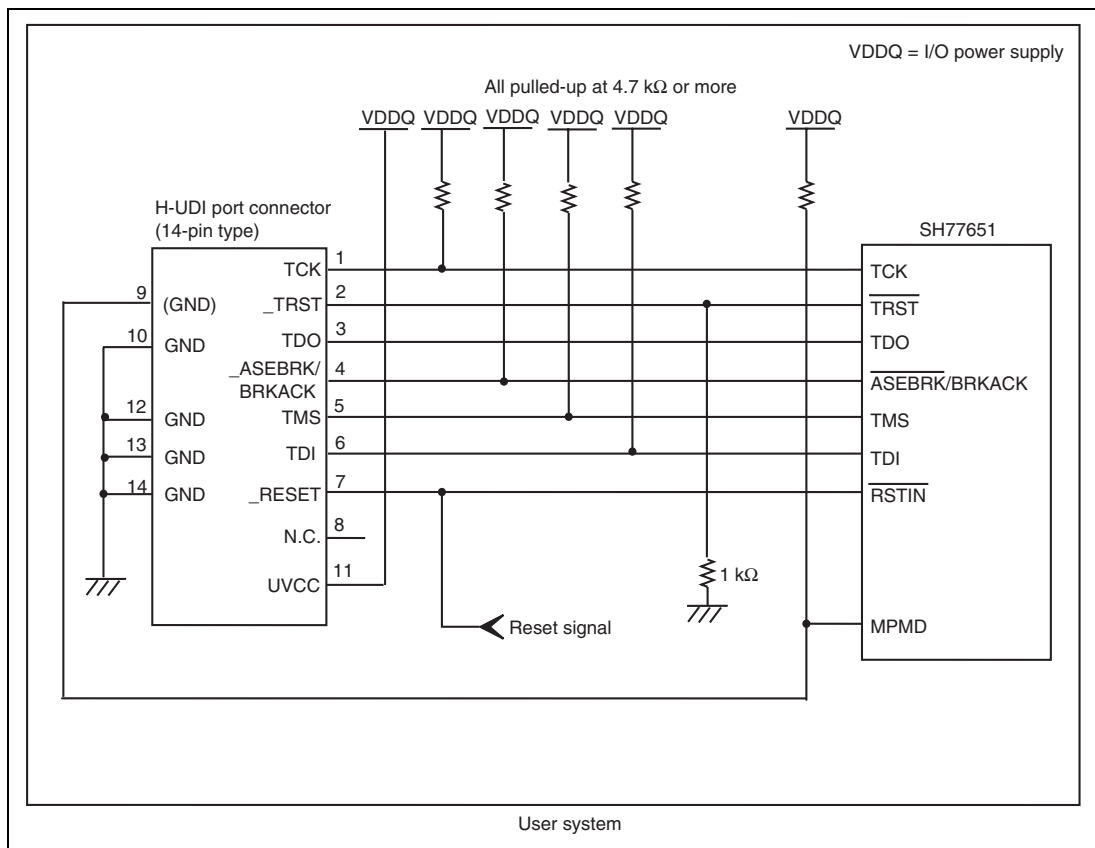

Figure 1.2 Recommended Circuit for Connection between the H-UDI Port Connector and MPU when the Emulator is in Use (14-Pin Type)
Figure 1.2 shows a recommended circuit for connection between the H-UDI and AUD port connectors (14 pins) and the MPU when the emulator is in use.
- (1) When the emulator is used: $MPMD = 0$
- (2) When the emulator is not used: $MPMD = 1$Figure 1.2 shows an example of circuits that allow the MPMD pin to be GND (0) whenever the emulator is connected by using the user system interface cable. When the MPMD pin is changed by switches, etc., ground pin 9. Do not connect this pin to the MPMD pin.
6. The resistance value shown in figure 1.2 is for reference.
When the circuit is connected as shown in figure 1.2, the switches of the emulator are set as SW2 = 1 and SW3 = 1. For details, refer to section 3.8, Setting the DIP Switches, in the SuperH™ Family E10A-USB Emulator User's Manual.